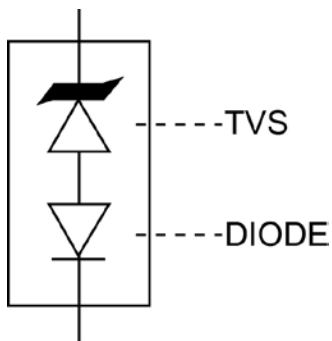
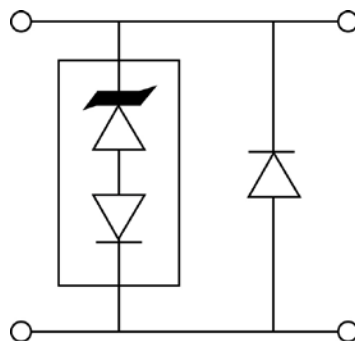

Figure 4
Figure 5
- With impulse repetition rate (duty factor) of 0.01 % max. TVS devices are not typically used for dc power dissipation and are instead operated $\leq V_{WM}$ (rated standoff voltage) except for transients that briefly drive the device into avalanche breakdown (V_(BR) to V_C region) of the TVS element. Also see Figures 5 and 6 for further protection details in rated peak pulse power for unidirectional and bidirectional configurations respectively.
The TVS low capacitance device configuration is shown in Figure 4. As a further option for unidirectional applications, an additional low capacitance rectifier diode may be used in parallel in the same polarity direction as the TVS as shown in Figure 5. In applications where random high voltage transients occur, this will prevent reverse transients from damaging the internal low capacitance rectifier diode and also provide a low voltage conducting direction. The added rectifier diode should be of similar low capacitance and also have a higher reverse voltage rating than the TVS clamping voltage VC. The Microsemi recommended rectifier part number is the "LCR60" for the application in Figure 5. If using two (2) low capacitance TVS devices in anti-parallel for bidirectional applications, this added protective feature for both directions (including the reverse of each rectifier diode) is also provided. The unidirectional and bidirectional configurations in Figure 5 and 6 will both result in twice the capacitance of Figure 4.